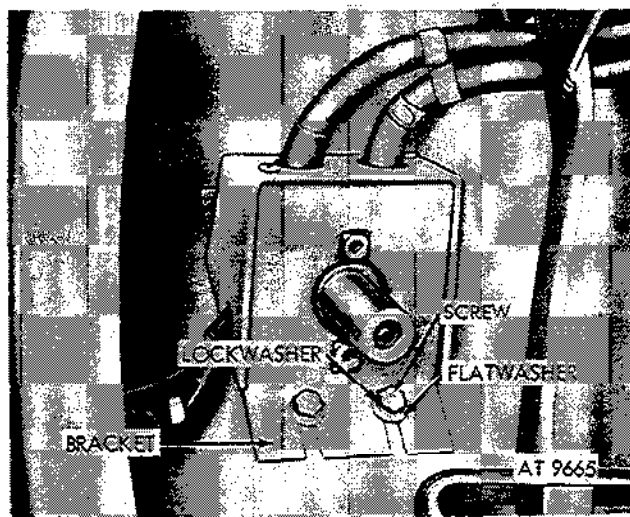

Figure 2-168. Remove starting switch bracket.
(2) Remove four screws, flat washers and lockwashers securing starting switch bracket to floor (fig. 2-168).